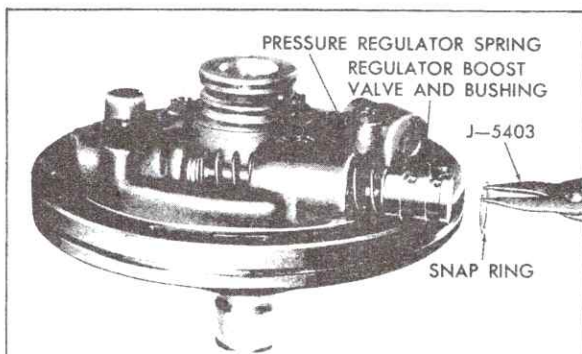

Fig. 7-55 Removing Pressure Regulator Valve Snap Ring
3. Compress regulator boost valve bushing against pressure regulator spring and remove snap ring using Snap Ring Pliers, J-5403 (#21), Fig. 7-55.